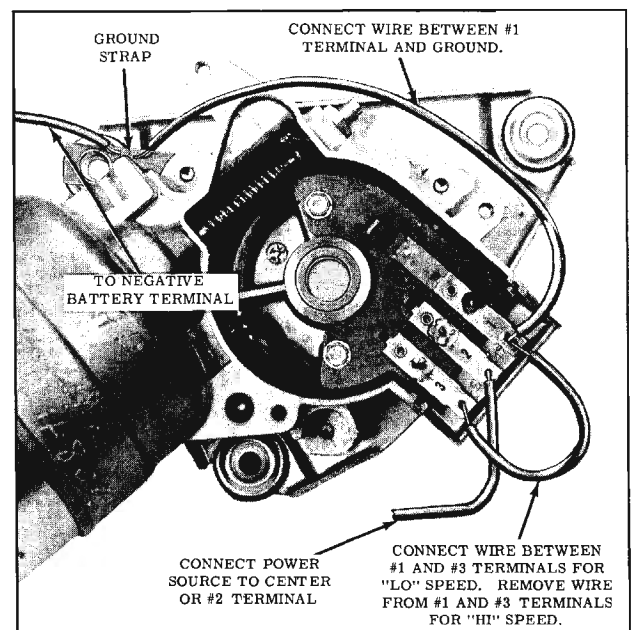

Fig. 14-176 Checking Circuit Wiring
- a. Connect a 12 volt supply to the center or number two terminal of the terminal board. (Fig. 14-176)
2. By-pass car wiring and dash switch and operate wiper as shown in Fig. 14-176.
3. Disconnect jumper wire number (2). Wiper should shut off when blades reach park position.
1. By-pass car wiring and dash switch and connect wiper as shown in Fig. 14-176. This should operate wiper in "LO" speed (approximately 35-45 wipes per minute).
1. By-pass car wiring and dash switch and connect wiper as shown in Fig. 14-176. This should operate wiper in "LO" speed. Next, disconnect jumper wire number (1). This should operate wiper in "HI".
“LO” Speed - Using an ammeter in the feed wire circuit from battery connect wiper as shown in Fig. 14-176.